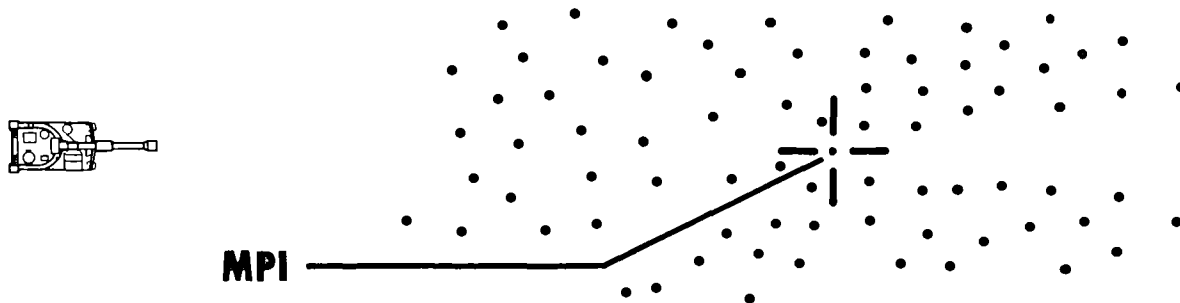

Figure B-1. Precision error (dispersion).
a. Dispersion is the scatter of burst points about the mean point of impact of a group of rounds fired at the same data from a *SINGLE* weapon on a single occasion from a *SINGLE* site (fig B-1).
(1) Conditions in the bore. Variations in the bourrelet and rotating band may cause